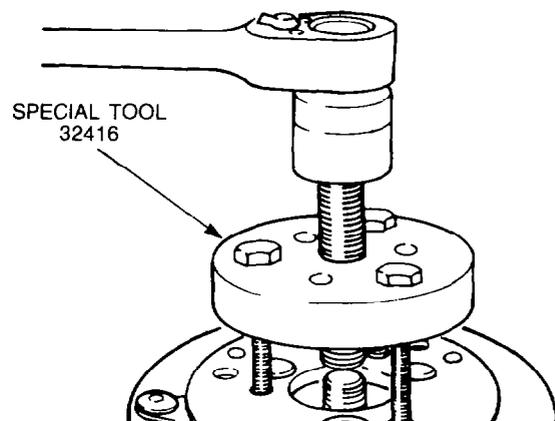

Figure 18 — Clutch Front Plate — Removal
- b. Using special tool 32416, install the three bolts into the threaded holes in the clutch front plate, then position the centre bolt of the tool on the compressor shaft, turn the centre bolt clockwise until the front plate is loose, then remove the clutch front plate (see Fig. 18).